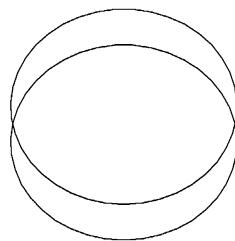

FIGURE 4-2.13 Ellipse copied downward $3\frac{1}{2}$ "
48. **Copy** the ellipse vertically downward $3\frac{1}{2}$ " (Figure 4-2.13).